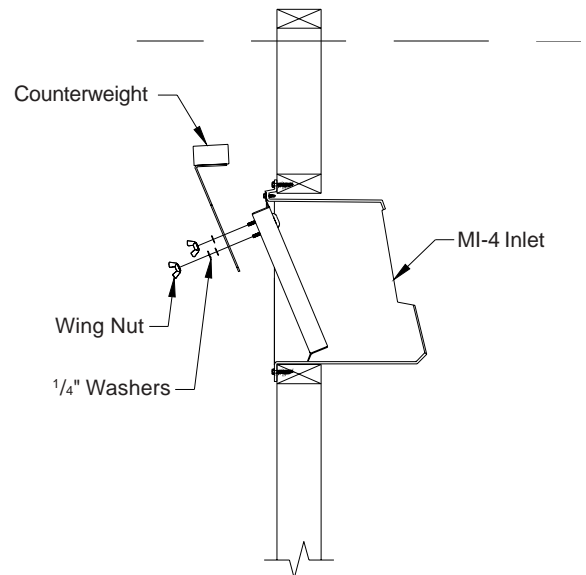

**Figure 1**
- 1) Construct a framed opening with inside dimensions of 46 1/2"W. x 13 1/2"H. at 12" from ceiling to the top **inside** of the stud, See **Figure 1**.